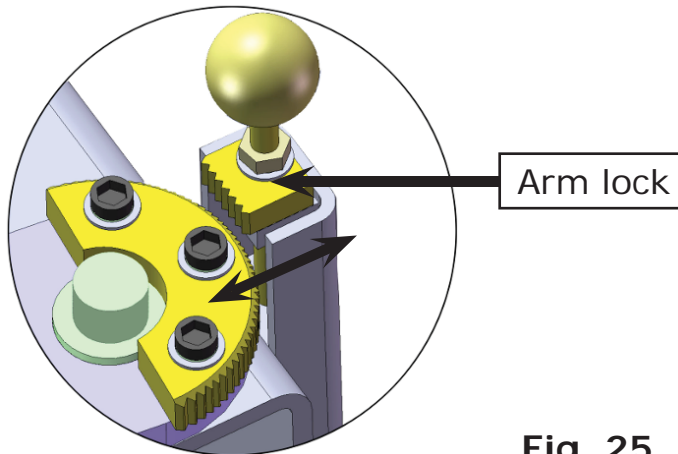

Fig. 25
3. Adjust the arm lock as arrow direction (See Fig. 25)